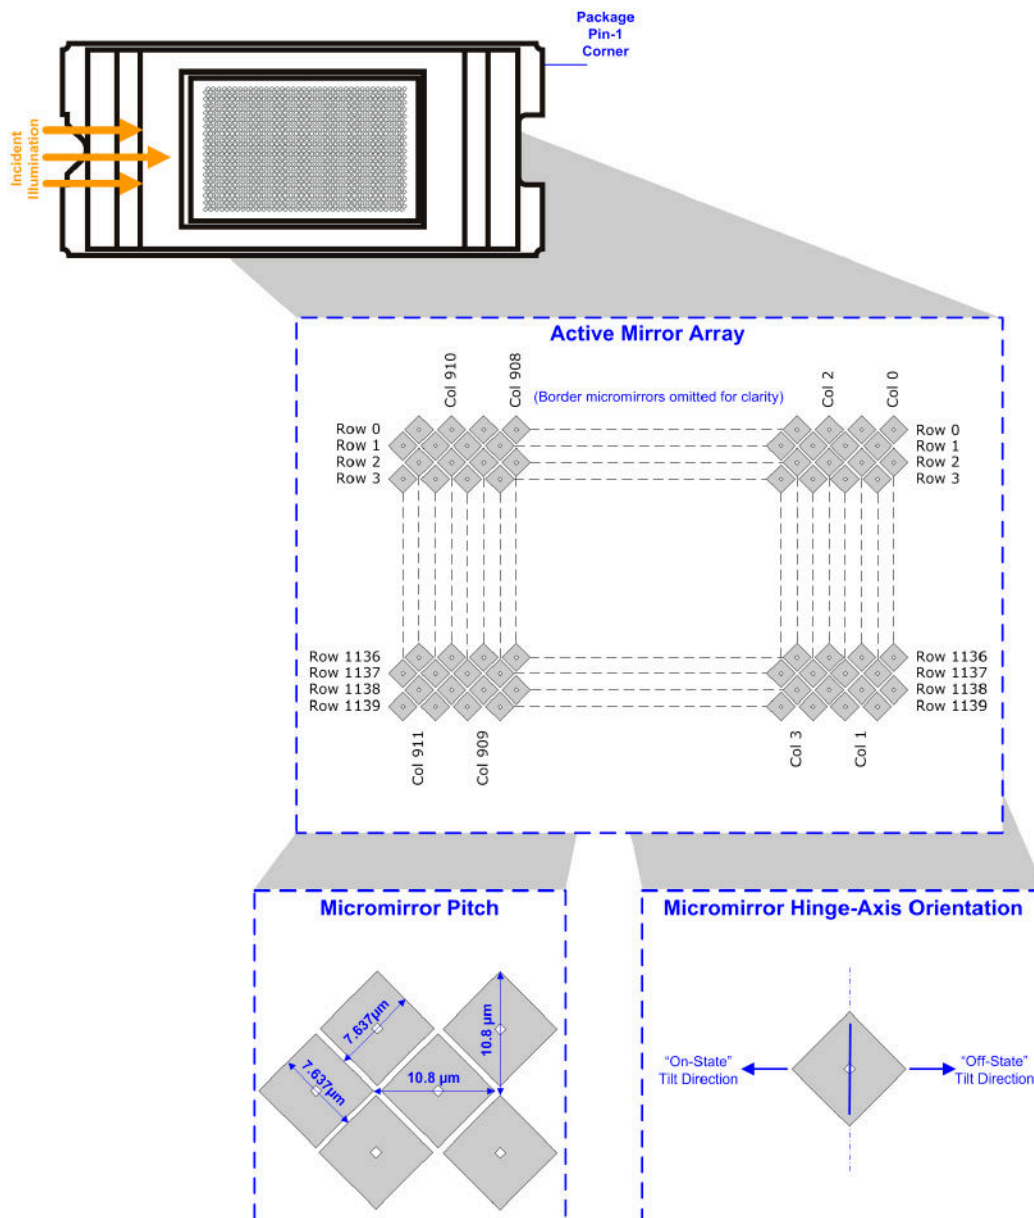
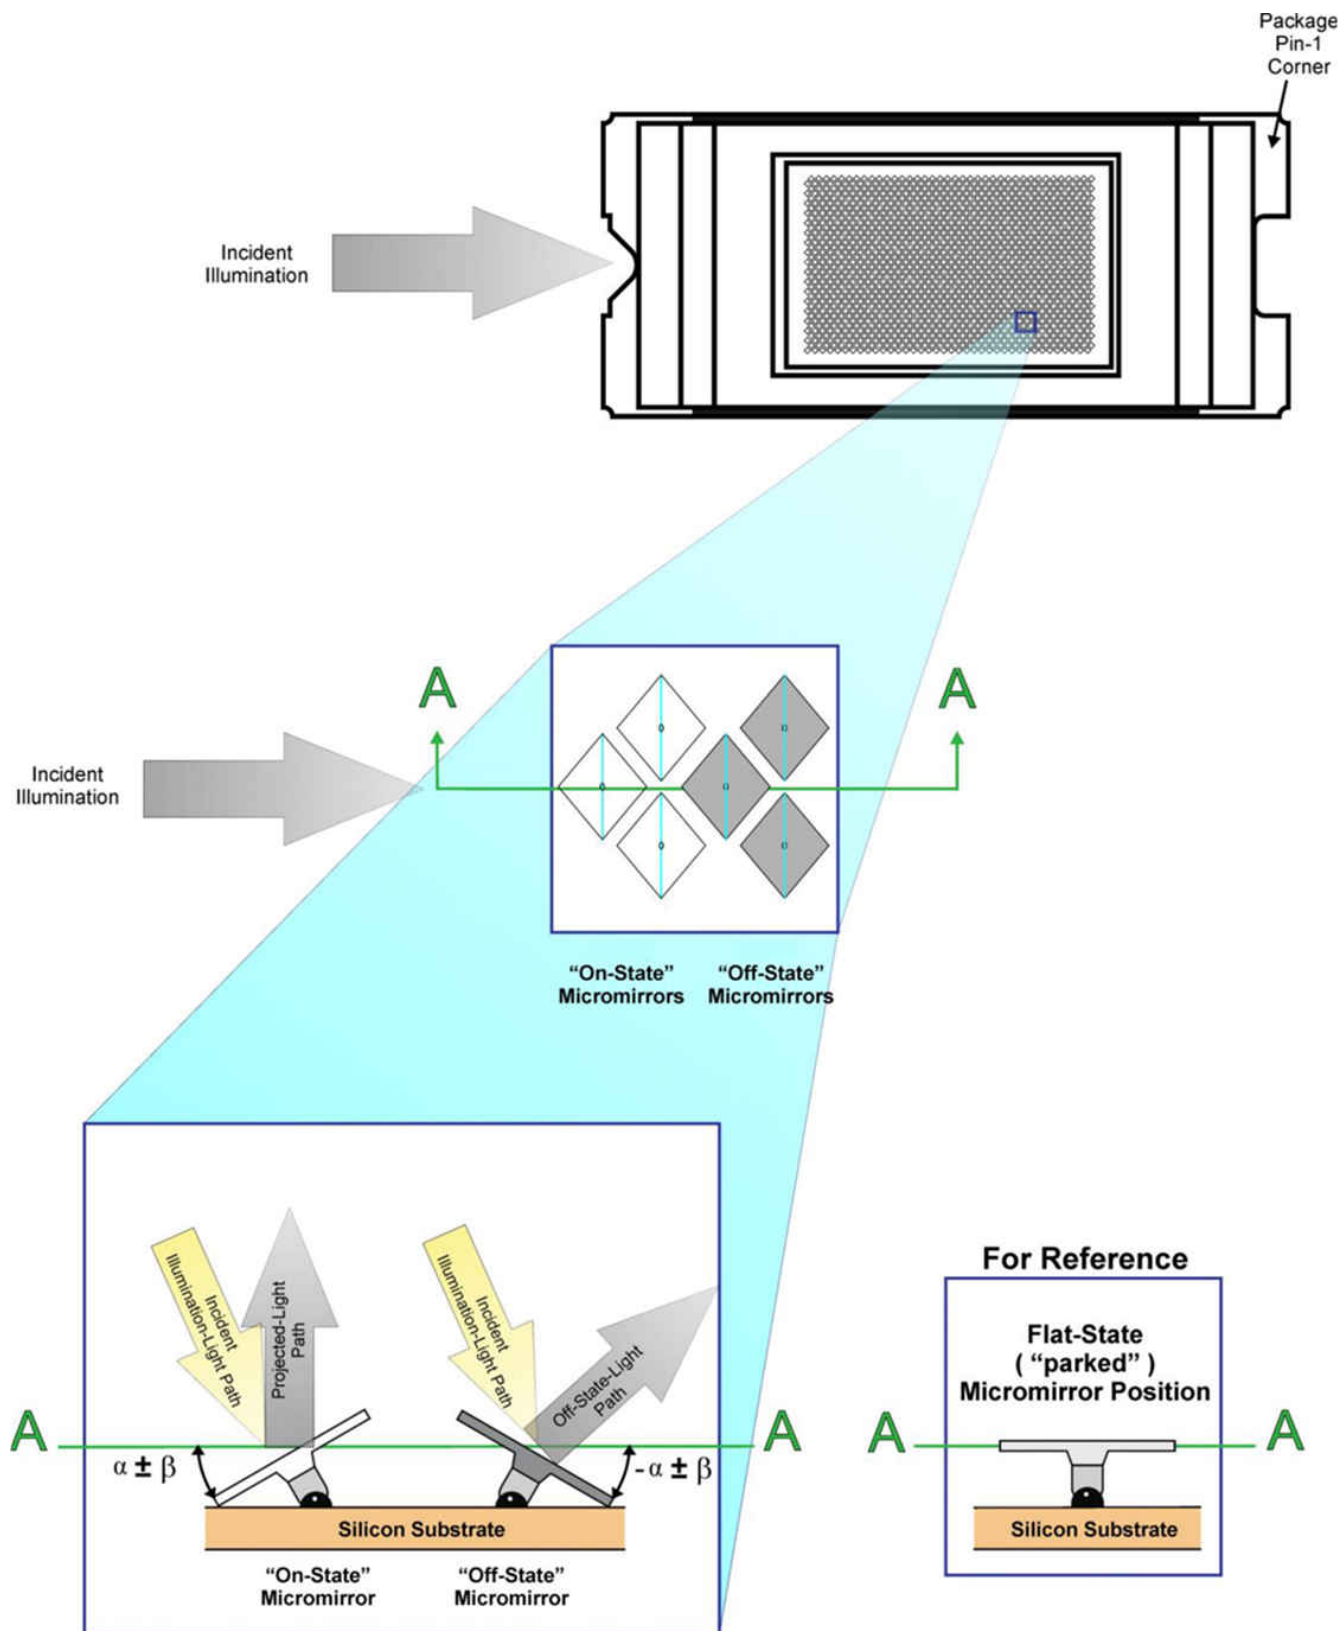

图 8-1. Micromirror Array, Pitch, and Hinge-Axis Orientation
图 8-2. Micromirror Landed Positions and Light Paths
- (1) The mirrors that form the array border are hard-wired to tilt in the -12° ("Off") direction once power is applied to the DMD (see Figure 8-1 and Figure 8-2).
- (2) See Figure 8-1.
- (1) Measured relative to the plane formed by the overall micromirror array.
- (2) Micromirror crossover time is primarily a function of the natural response time of the micromirrors.
- (3) *Parking* the micromirror array returns all of the micromirrors to a relatively flat (0°) state (as measured relative to the plane formed by the overall micromirror array).
- (4) When the micromirror array is *parked*, the tilt angle of each individual micromirror is uncontrolled.
- (5) Additional variation exists between the micromirror array and the package datums.
- (6) When the micromirror array is *landed*, the tilt angle of each individual micromirror is dictated by the binary contents of the CMOS memory cell associated with each individual micromirror. A binary value of 1 results in a micromirror *landing* in an nominal angular position of +12°. A binary value of 0 results in a micromirror *landing* in an nominal angular position of –12°.
- (7) Represents the *landed* tilt angle variation relative to the nominal *landed* tilt angle
- (8) Represents the variation that can occur between any two individual micromirrors, located on the same device or located on different devices.
- (9) For some applications, it is critical to account for the micromirror tilt angle variation in the overall system optical design. With some system optical designs, the micromirror tilt angle variation within a device may result in perceivable non-uniformities in the light field reflected from the micromirror array. With some system optical designs, the micromirror tilt angle variation between devices may result in colorimetry variations or system contrast variations.
- (10) See 图 8-2.
- (11) Performance as measured at the start of life.
- (12) Measured relative to the package datums B and C, shown in the Package Mechanical Data section in 节 13.
- (13) The nominal DMD total optical efficiency results from the following four components:
- (14) The DMD diffraction efficiency and total optical efficiency observed in a specific application depends on numerous application-specific design variables, such as:
Optically, the DLP4500 device consists of 1039680 highly reflective, digitally switchable, micrometer-sized mirrors (micromirrors) organized in a two-dimensional array. The micromirror array consists of 912 micromirror columns by 1140 micromirror rows in diamond pixel configuration (图 8-1). Due to the diamond pixel configuration, the columns of each odd row are offset by half a pixel from the columns of the even row.
Each aluminum micromirror is approximately 7.6 microns in size and arranged in row and columns as shown in 图 8-1. Due to the diamond pixel array of the DMD, the pixel data does not appear on the DMD exactly as it would in an orthogonal pixel arrangement. Pixel arrangement and numbering for the DLP4500 is shown in 图 8-1.
Each micromirror is switchable between two discrete angular positions: -12° and 12° . The angular positions α and β are measured relative to a 0° flat reference when the mirrors are parked in their inactive state, parallel to the array plane (see 图 8-2). The parked position is not a latched position. Individual micromirror angular positions are relatively flat, but do vary. The tilt direction is perpendicular to the hinge-axis. The on-state landed position is directed toward the left side of the package (see 图 8-2).